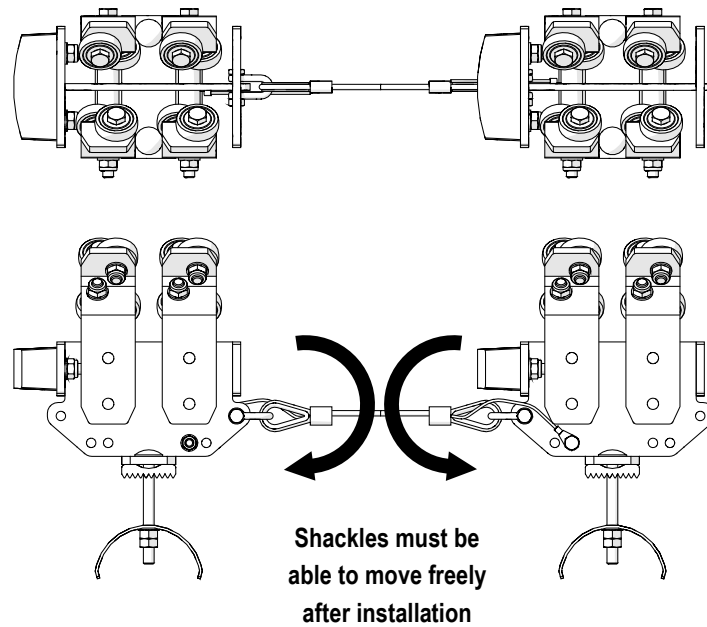

Fig. 35: Installation of the towing rope/equipotential bonding on the cable trolley
- The additional steel rope with the cable lug is screwed to the upper part of the cable trolley using an additional hole. In the shortest upper part of the cable trolley, both steel ropes are mounted to a central hole for equipotential bonding. Two holes are provided for the longer upper part of the cable trolley (see Fig. 35).